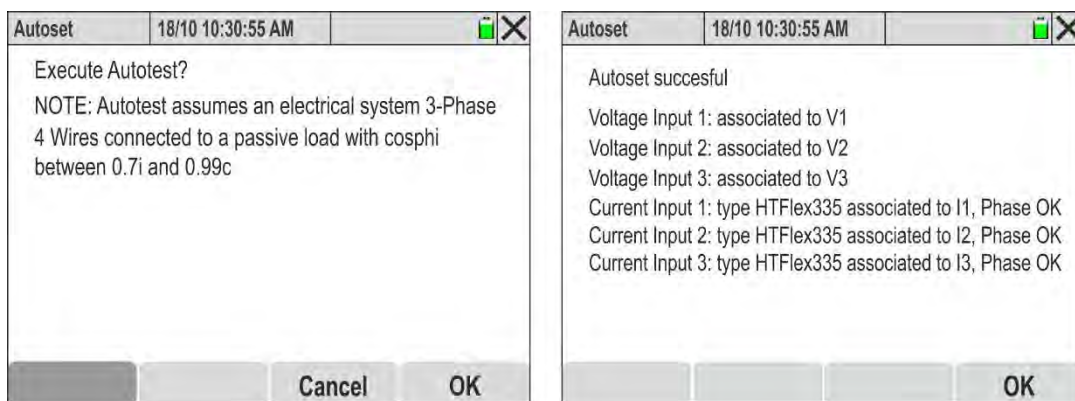

Fig. 71: Autoset execution without connection errors
3. Touch the **"Autoset"** key. The screen in Fig. 71- left side (**relating to a Three-Phase 4 Wires system**) is shown on the display
5. Touch "OK" to confirm. → The function is executed and after a few moments the screen in Fig. 71 – right side is displayed if the **Autoset is correct**. The following parameters are checked: